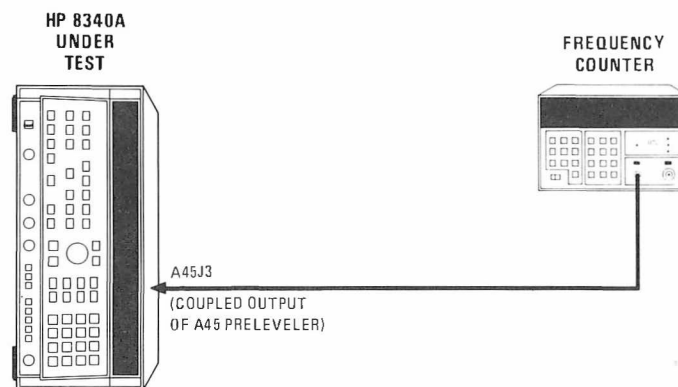

Figure 5-16. YO Main Driver A55 Test Setup
1. Position 8340A in the Test Position as shown in Figure 5-16 with bottom cover removed. Connect equipment as shown in Figure 5-16 and allow one-half hour warm up time.